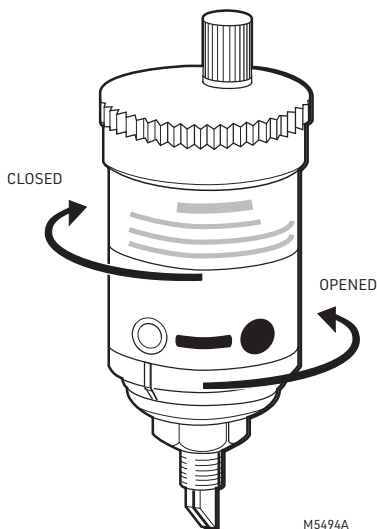

Fig. 4. Turn vent body counterclockwise to open or clockwise to close.
4. Make sure that the red vent cap is securely tight, and that the valve is in the closed position by turning vent body clockwise. See Fig. 4. Use hands only to avoid damaging the vent.
7. Operate the EA122A by turning the air vent body counterclockwise to the open position. Use hands only. See Fig. 4.
- Turn the vent body clockwise to the closed position, isolating the vent from the system. See Fig. 4.